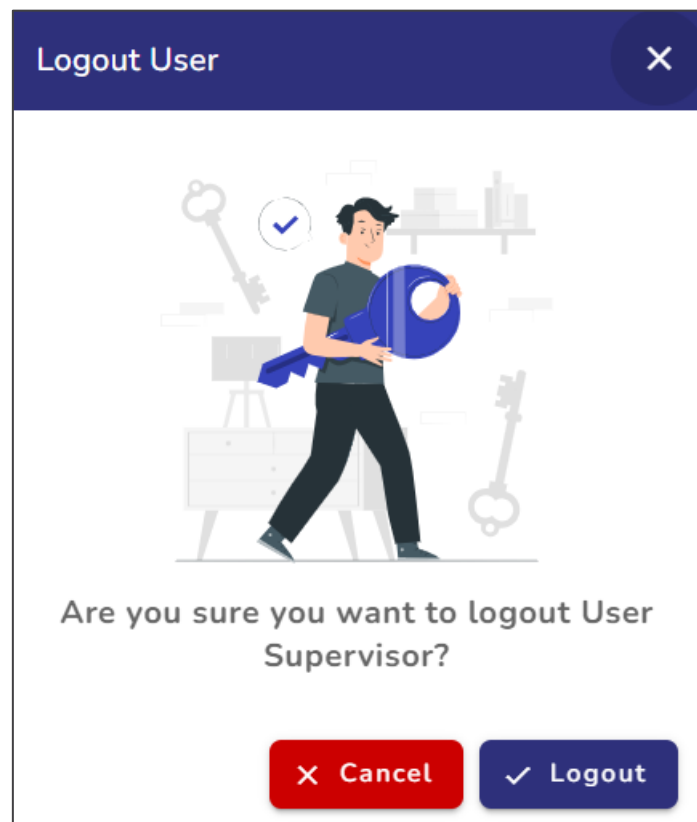

Figure 2.3 Popup Window-Logout
4. In the popup window as shown in Figure 2.3, click on the "Logout" button to proceed with the logout.